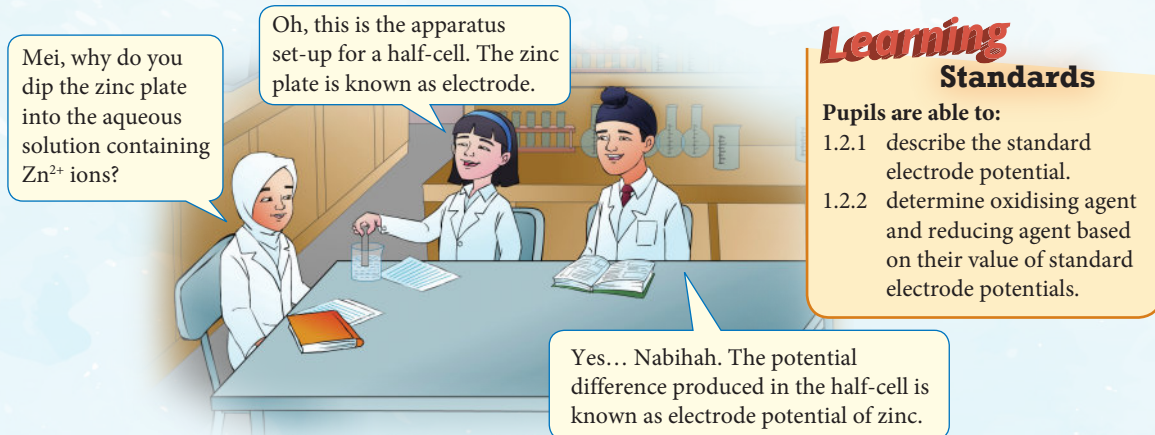

Figure 1.13 Understanding electrode potential
- Based on the conversation among the pupils in Figure 1.13, what do you understand about electrode potential? How can we determine the standard electrode potential?